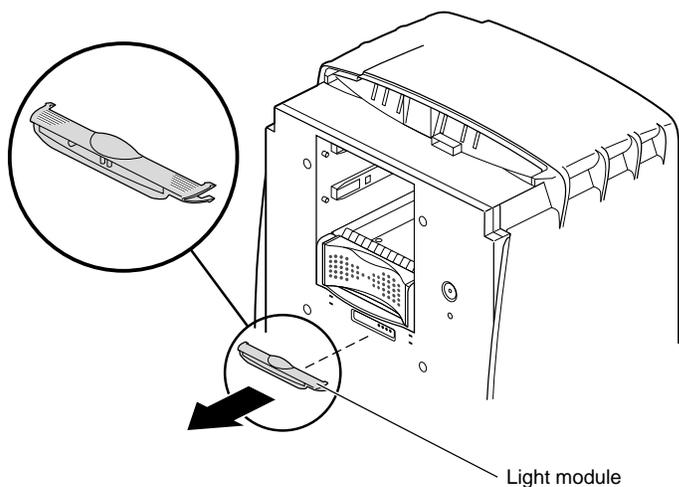

Figure 7-20 Removing the Light Module
1. Squeeze both top and bottom wings together at both ends of the light module and gently pull straight back, as shown in Figure 7-20.